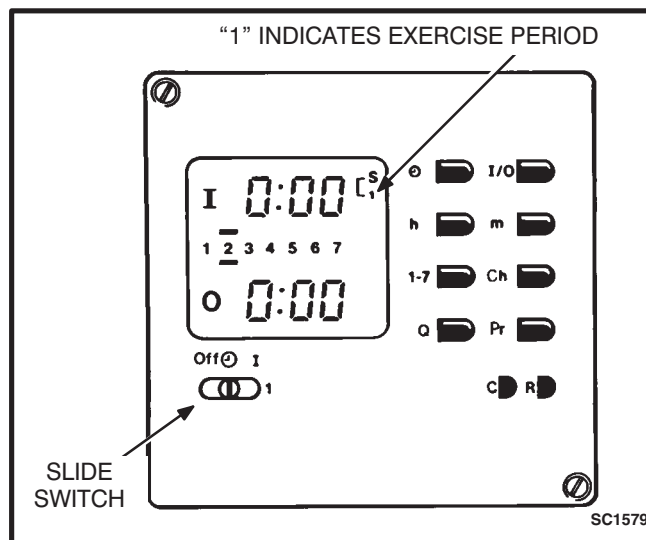

FIGURE 4-1. EXERCISER CLOCK
3. Check the exerciser clock to see if it is in an exercise period. When the exerciser clock is in an exercise period, a "1" appears in the upper right-hand corner of the display window (Figure 4-1). You can view the display by looking through the transparent clock cover. Check that the red slide switch is in the center position (Figure 4-1).
2. Check the exerciser to see if it is in an exercise period. When the exerciser clock is in an exercise period, a "1" appears in the upper right-hand corner of the display window (Figure 4-1). You can view the display by looking through the transparent clock cover. Check that the red slide switch is in the center position (Figure 4-1).